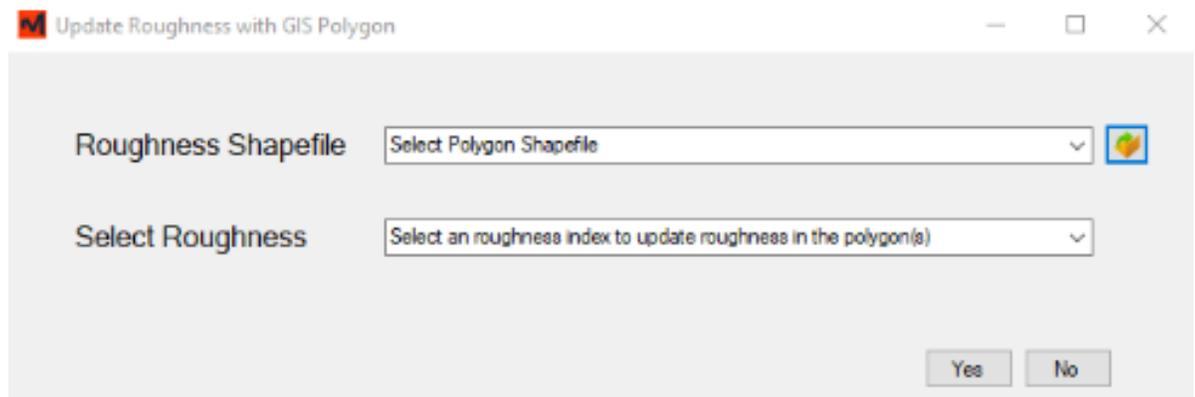

Figure 3-23. Assign roughness with GIS polygon field.
1. Select Mesh>Assign Roughness Zone with GIS Shapefile. A form will appear (Figure 3-23).